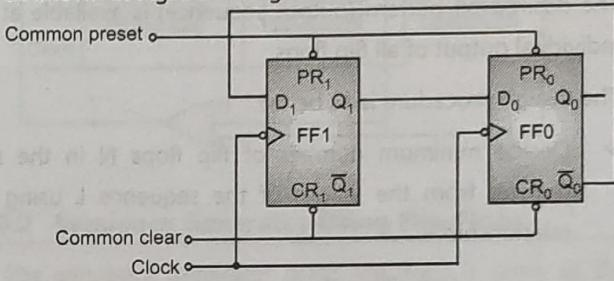

Fig. 3.54 : 2-bit Johnson counter
- A 2-bit Johnson counter can be designed using two flip flops. When the output of FF0 is connected to the D_1 input of FF1 as shown in Fig. 3.54 we get the 2 bit Johnson counter.